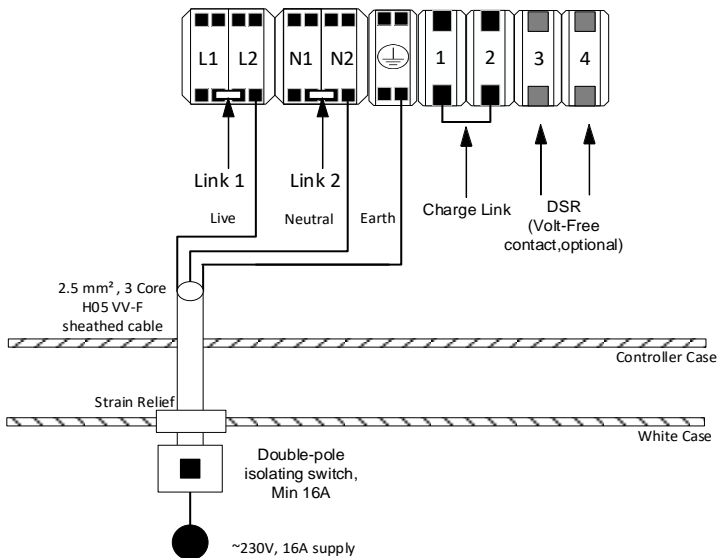

Figure 11 - Thermino ePlus Heat Battery wiring without solar power diversion
- Without Solar Power Diversion follow Section 6.3.1, Figure 11.